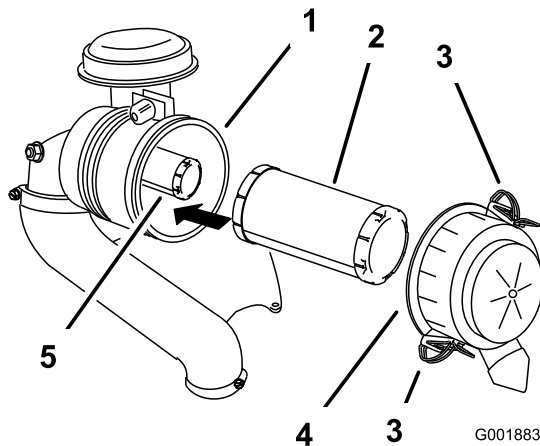

Figure 29
3. Release the latches on the air cleaner and pull the air cleaner cover off the air cleaner body (Figure 29).
5. Gently slide the primary filter out of the air cleaner body (Figure 29).
2. If the safety filter is being replaced, carefully slide it into the filter body (Figure 29).
3. Carefully slide the primary filter over the safety filter (Figure 29).
4. Install the air cleaner cover with the side indicated as up facing upward and secure the latches (Figure 29).